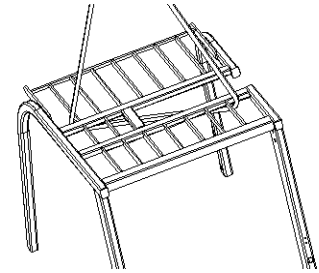

Figure 2-22
- (2) Figure 2-22 shows how to lift the top shelf